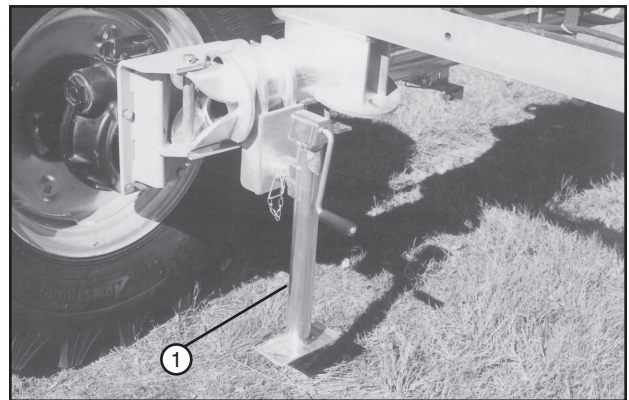

Figure 85-3 1. Jack
3. Rotate the jacks to the vertical down position. See figure 85-3.